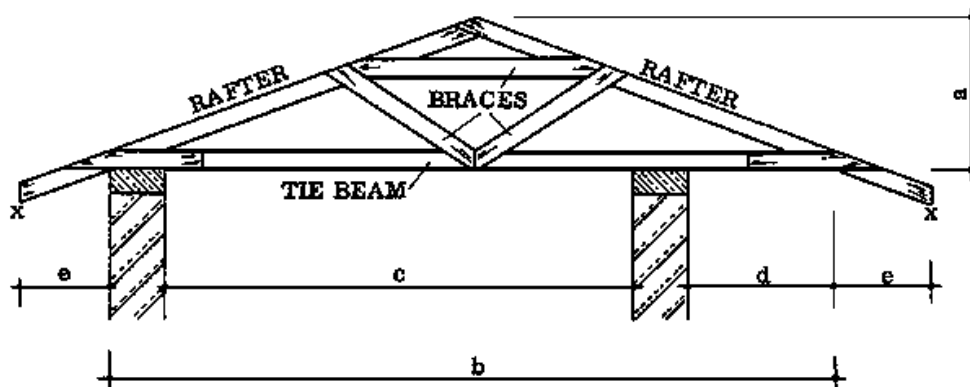

Fig. 1
- RISE OF THE TRUSS: This is the vertical height of the truss (Fig. 1, a), measured between the highest point of the truss and the soffit of the tie beam.